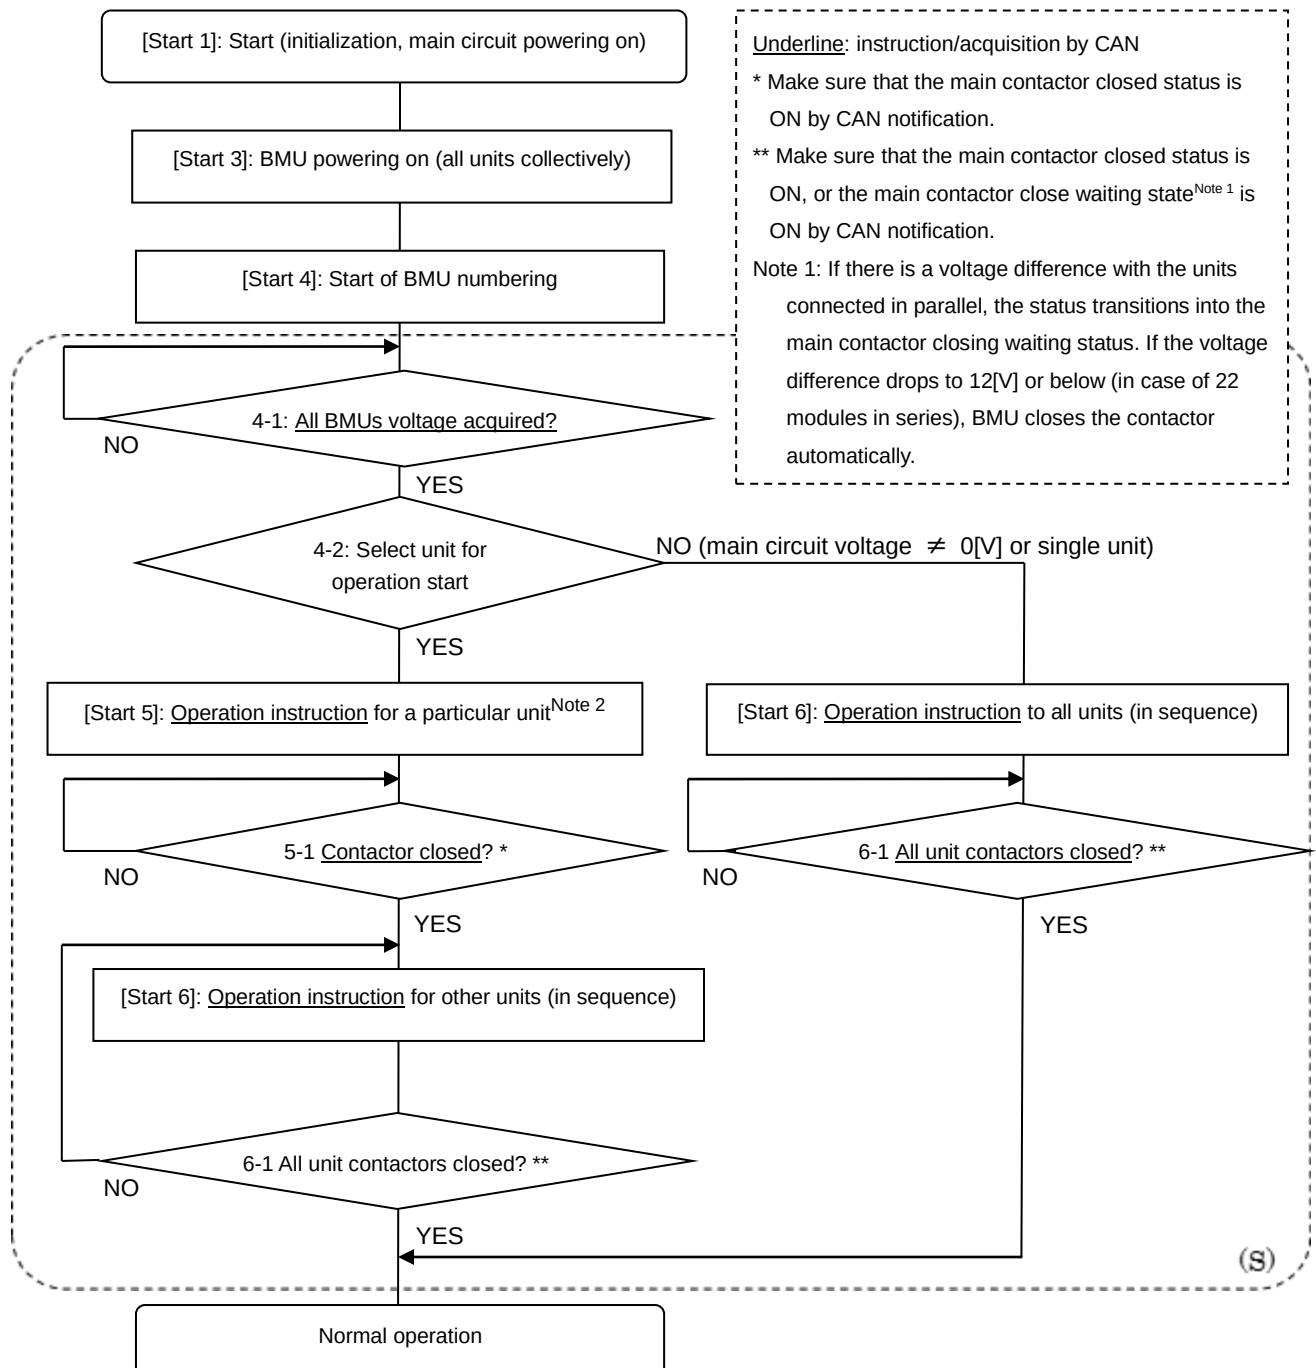

Figure 5 Unit start process flow of host system (contactor)
In the standalone mode, BMU can transition to the normal operation only by powering on the 12 V power supply of BMU and the power supply permit signal, without the control by the host system. In the standalone mode, only "[Start 3]: BMU powering on" and "[Start 4]: Start of BMU numbering" in Figure 5 apply, with no need for [Start 5] and [Start 6]. The processes enclosed in the dotted line (S) in Figure 5 are skipped.
For details on the start procedure in the standalone mode, refer to 6.3.1. The processes enclosed in the dotted line (S) are skipped as in Figure 5.